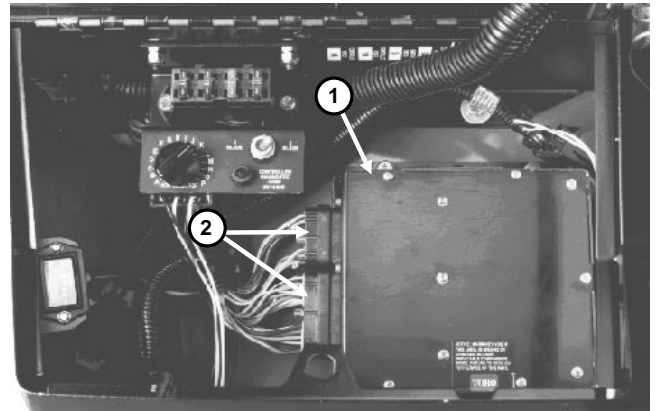

Figure 31
3. Loosen nuts on wiring connectors with a 1/4" nut driver, then disconnect wiring connectors from ECU (Fig. 31).